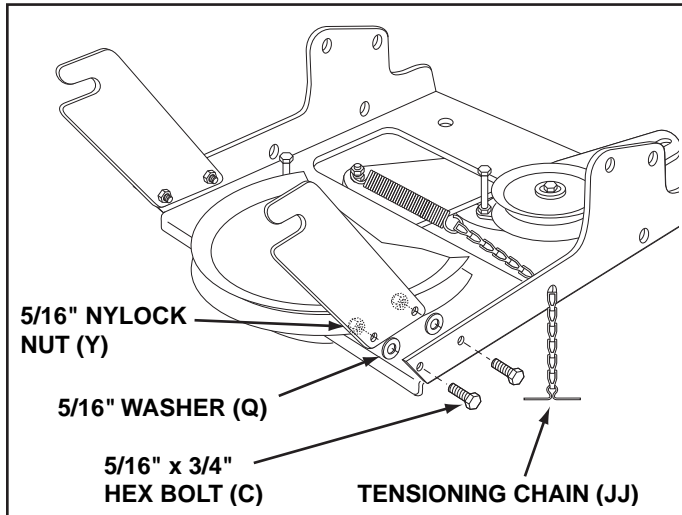

FIGURE 41
STEP 41: (SEE FIGURE 41)
- Attach the two suspension arms to the rear of the clutch/idler assembly using two 5/16" x 3/4" hex bolts (C), 5/16" washer (Q) and 5/16" nylock nuts (Y) for each arm. Place the arms on the outside of the frame with the notches to the rear.